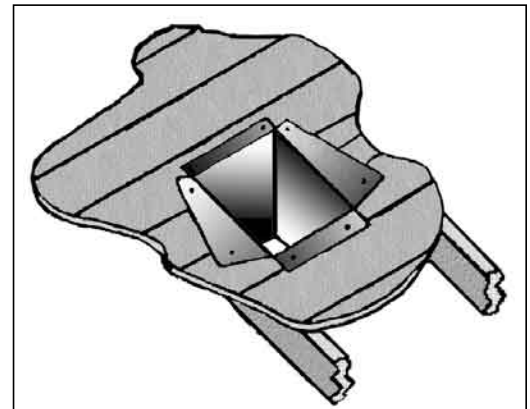

Figure 20: Cathedral Ceiling Support Box Installation.
- STEP 5.** Using tin snips, cut the "Support Box" from the top corners down to the roof line, and fold the resulting flaps over the roof sheathing (Figure 20). Before nailing it in to the roof, run a bead of non-hardening mastic around the top edges of the "Support Box", to make a seal between the box and the roof. Clean out any combustible material from the inside of the "Support Box".